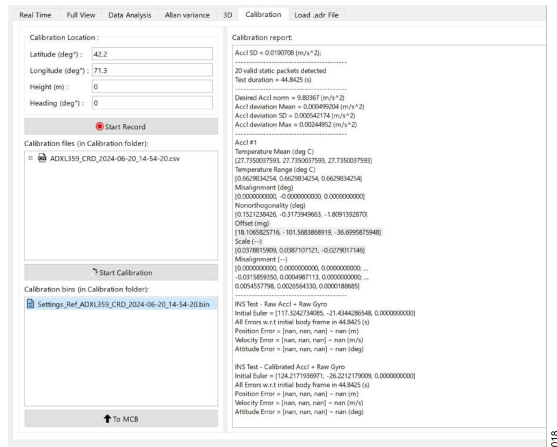

Figure 18. Calibration Results
5. Notice that the **Calibration files** text box can contain multiple calibration files. Select the appropriate file and click **Start Calibration**. The following two types of calibration files are created (see Figure 18):